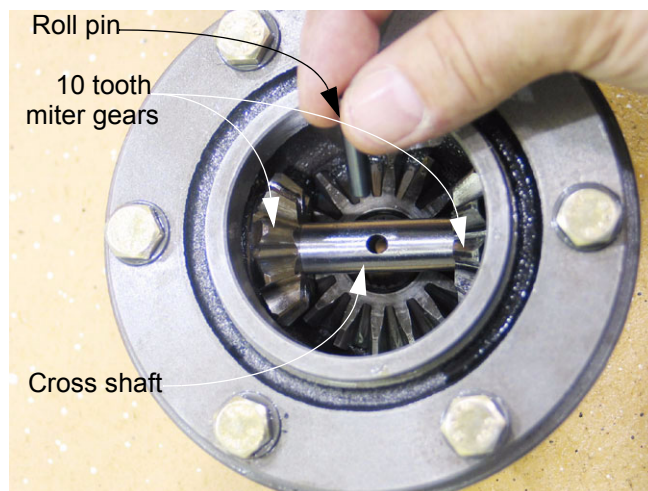

Figure 9.66
- 9.66. Secure the cross shaft by driving in a new roll pin with a flat-nosed drift. See Figure 9.66.